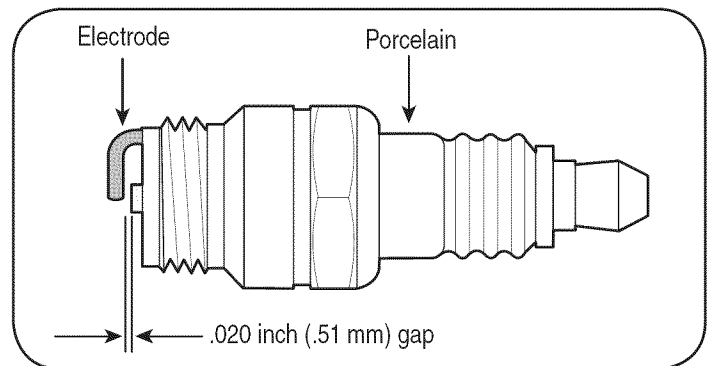

Figure 17
- Remove and inspect the spark plug. Check gap to make sure it is set at .020". See Figure 17.